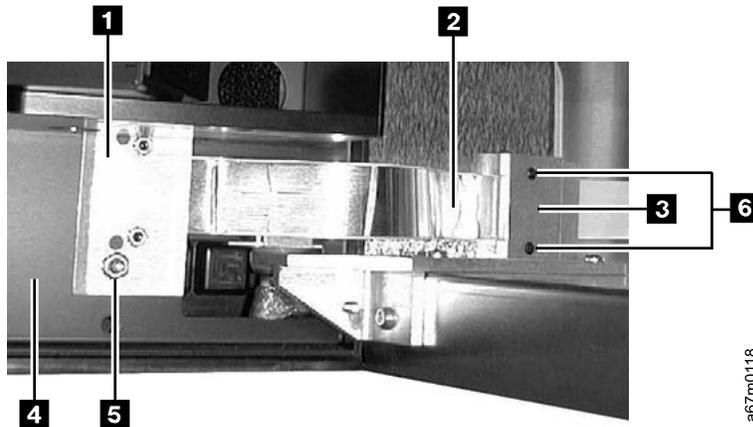

Figure 7-20. Display Assembly Flex Cable Removal and Replacement. The view is from the bottom front of the library, at the juncture of the door and the library.
4. Refer to Figure 7-20 on page 7-24 and remove the Display Assembly Flex Cable from the cable clamps.